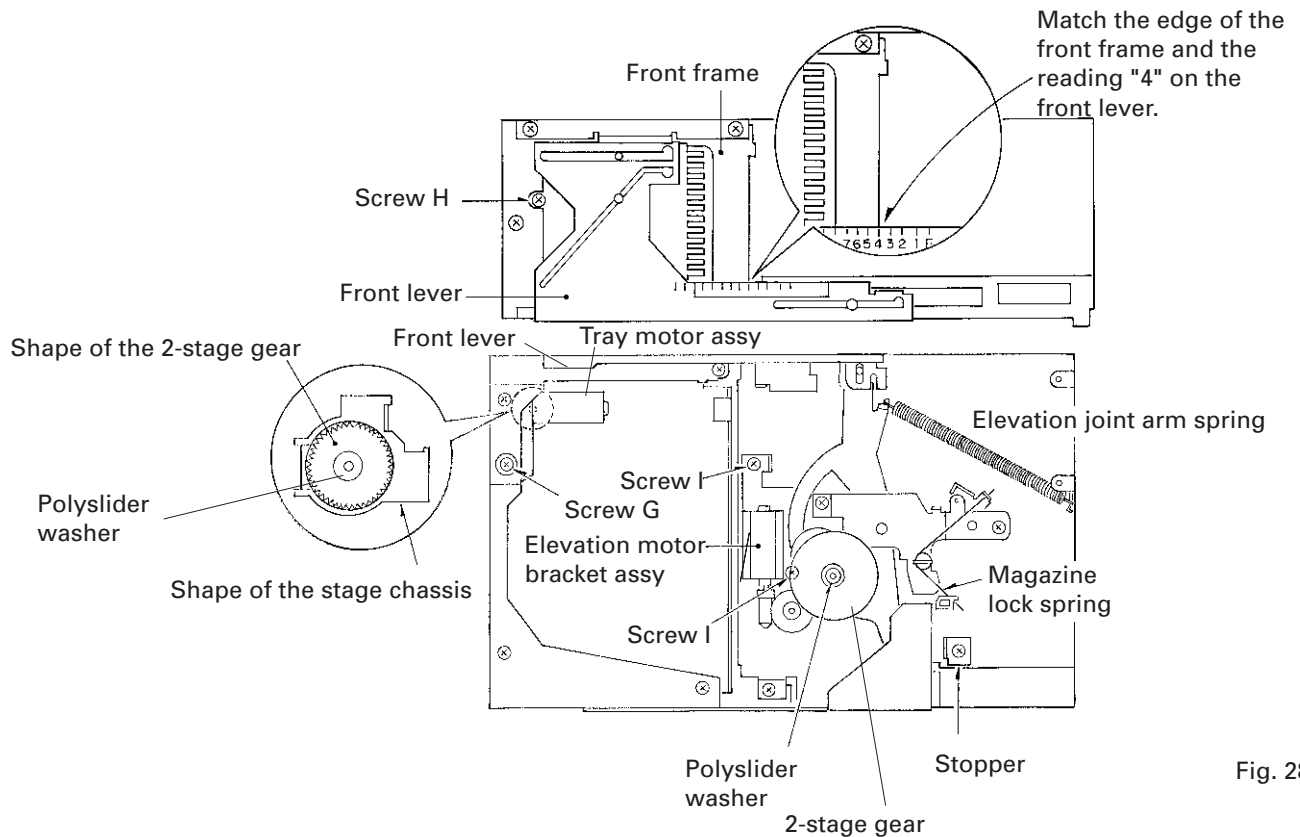

Fig. 28
● Removing the Tray Motor Assy (see Fig. 28)
● Cautions on Mounting the Tray Motor Assembly (see Fig. 28)
● Removing the Elevation Motor Bracket Assy (see Fig. 28)
1. Remove the elevation joint arm spring.(See Fig. 28)
2. Remove the magazine lock spring.(See Fig. 28)
3. Remove the 2-stage gear.(See Fig. 28)